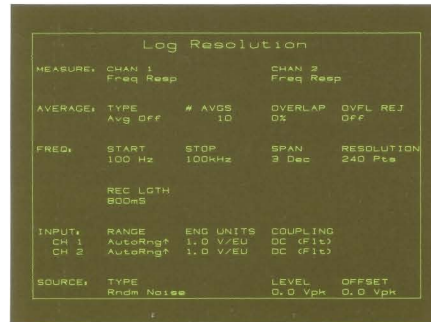

Figure 3-1
**2. Preset** Press the green **PRESET** key to select the log resolution preset measurement. The Log Resolution setup state can be displayed, as shown in Figure 3-1, by pressing the **STATE/TRACE** key.